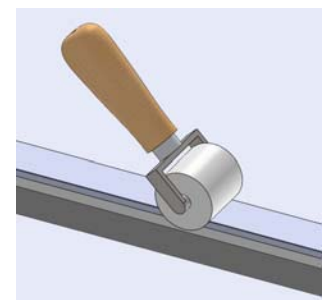

Figure 3:
4. Once satisfied with the positioning of the SDL, remove the SDL tape backing and apply the SDL to glass. Using a hand roller, roll along the entire length of the external SDL forming a secure adhesion to the glass (Figure 3).